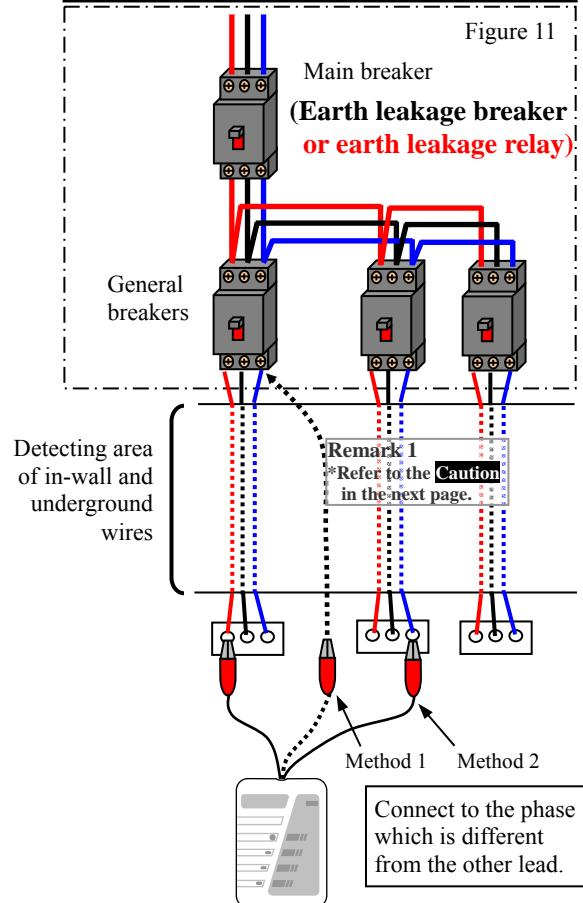

Figure 11
Connect the transmitter by either the method 1 or 2 shown in the Figure 11 above to return the signal by a different route in order to prevent the signal from flowing in the detecting route.
- Method 1 and 2 shown in the Figure 11 can be applied for the circuit detection without earth leakage breaker.
- If the main and branch breakers are earth leakage breakers, bypass the secondary side of the branch breaker whose line is detecting (see Figure 11). In such case, bypass wiring has to be placed at least 5m away from the area of buried wire.